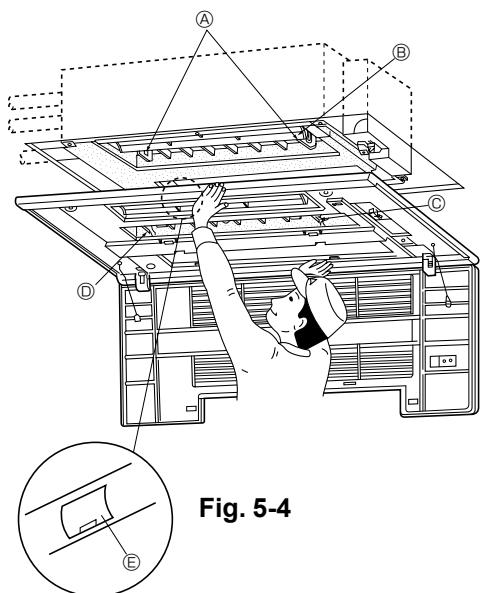

Fig. 5-4
5.3. Installing the grille (Fig. 5-4)
- (A) Hooks